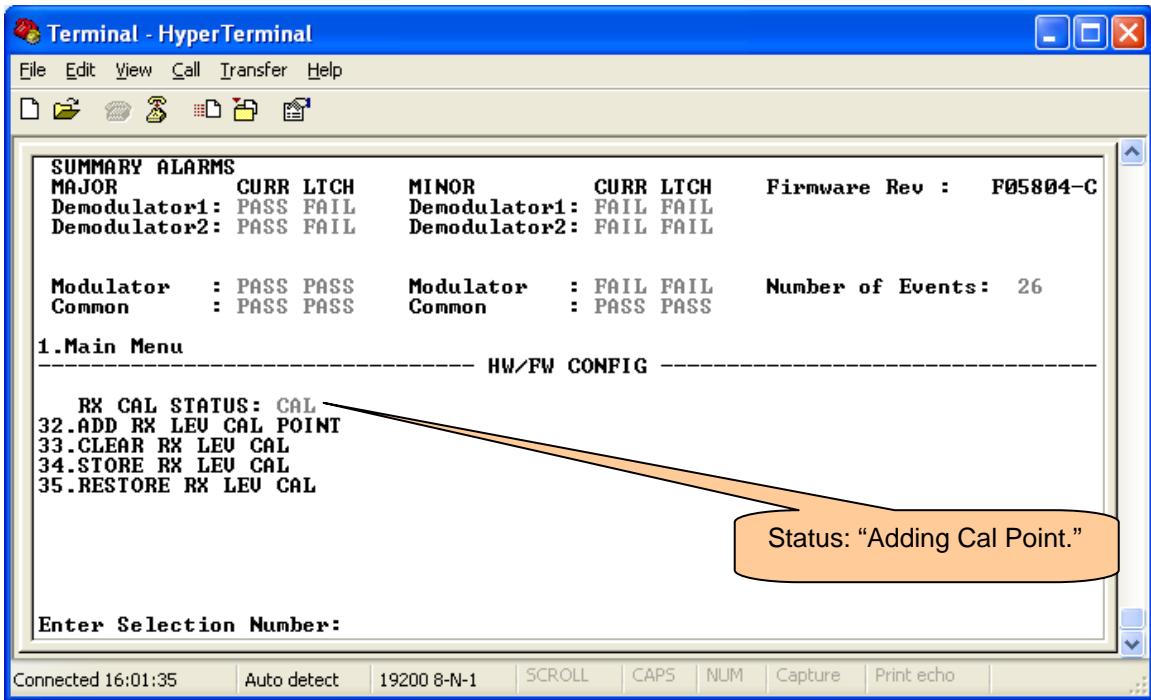
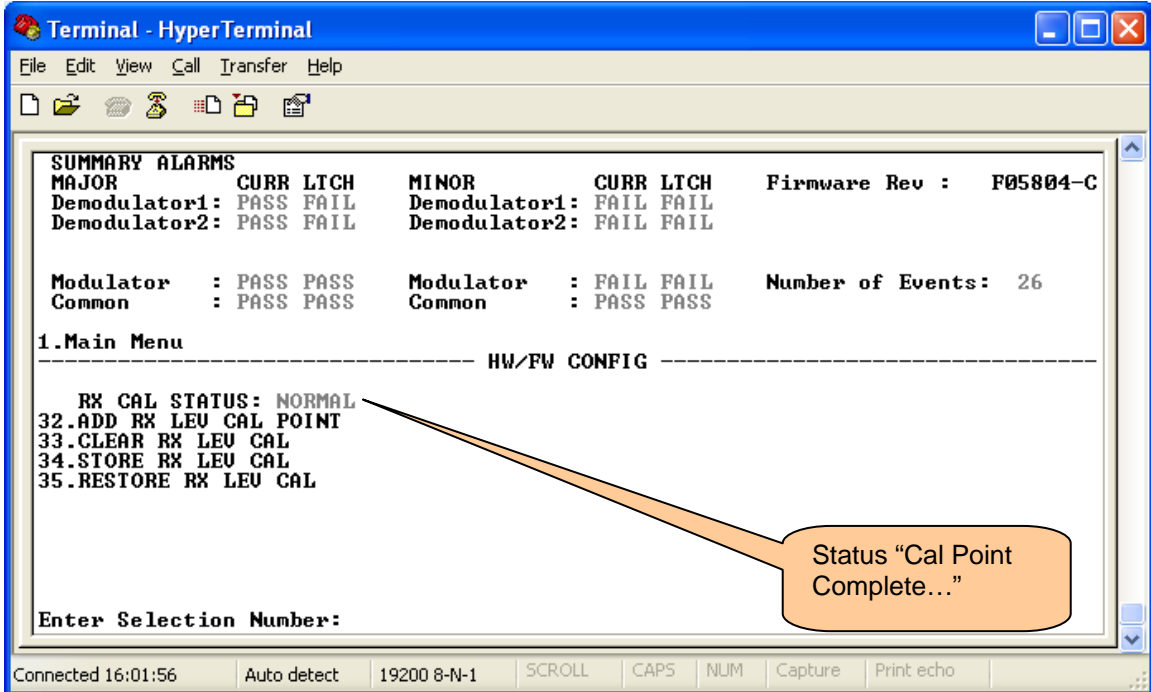

Figure 33 – “CAL” - Calibration Status
Figure 34 – “NORMAL” Calibration Status
5. During the unit calibration process the status will change to “CAL”. At this time the unit will be converging to the desired level and computing the required information for the calibration table entry. Once the status changes back to “NORMAL” this signals that the gateway has completed processing and is ready for the next entry, see Figure 33 and Figure 34.